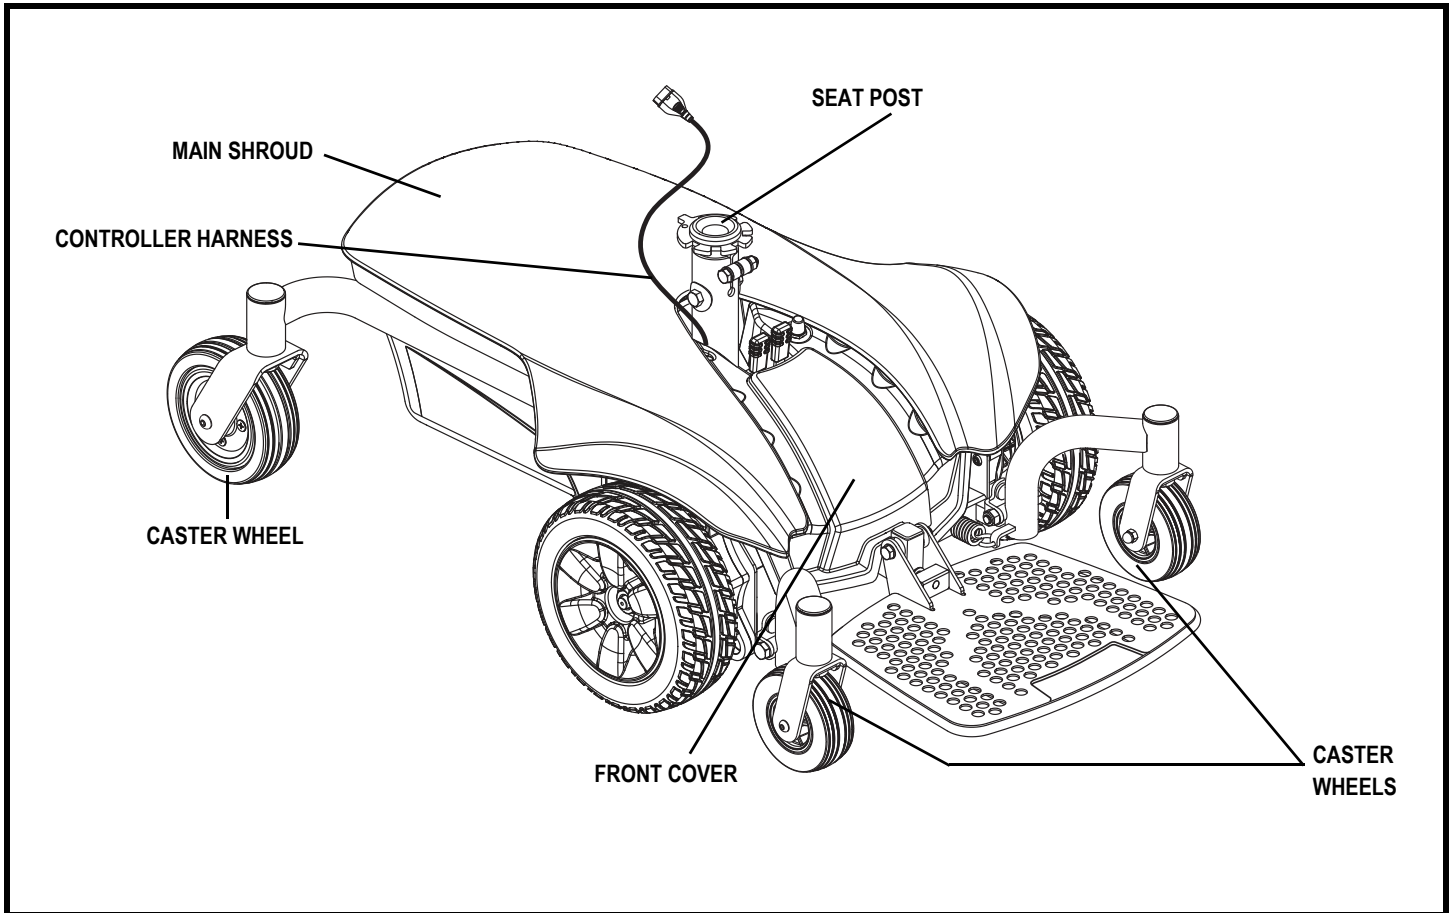

Figure 6. The Jazzy Elite 6 Power Base
5. Plug the controller harness into the connector on the power base. See figure 6.